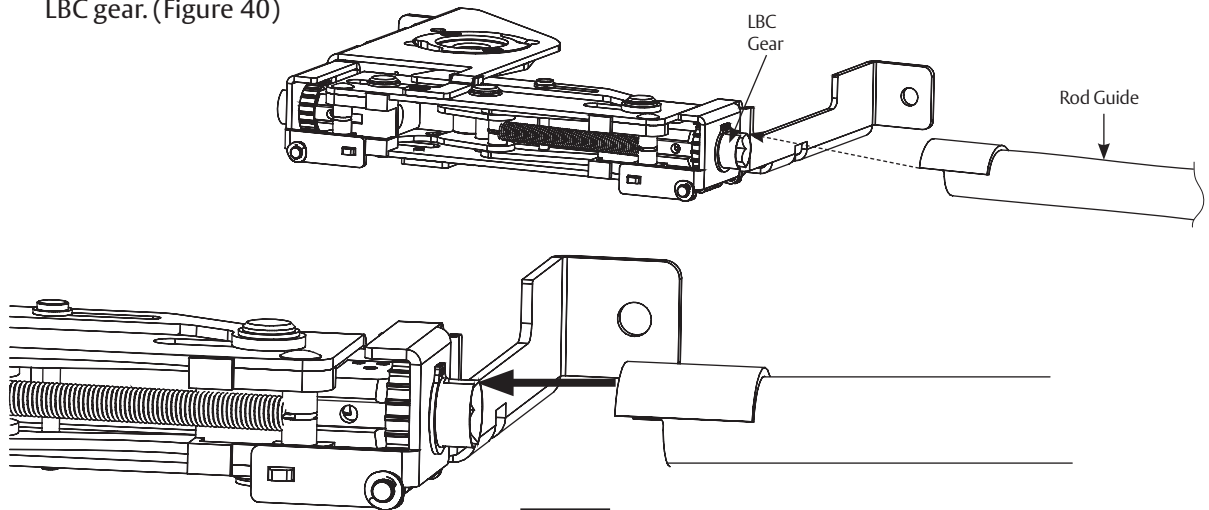

Figure 40
- When approaching the LBC, slightly elevate the rod and slide the guide tab on outer diameter of the LBC gear. (Figure 40)